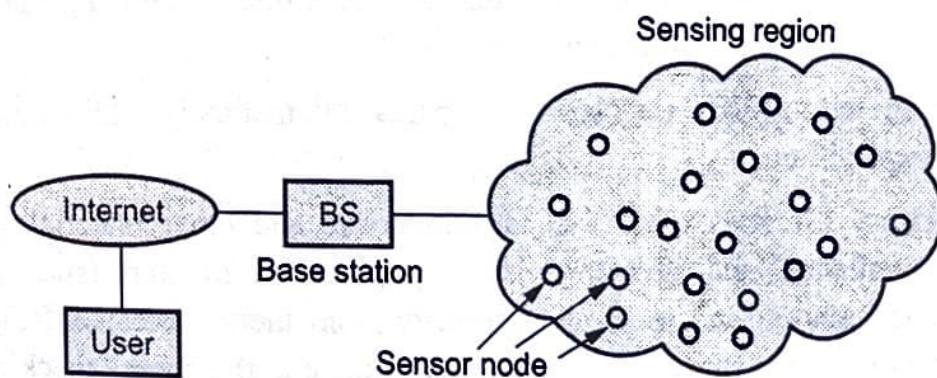

Fig. Q.4.1 WSN architecture
- Fig. Q.4.1 shows WSN architecture.